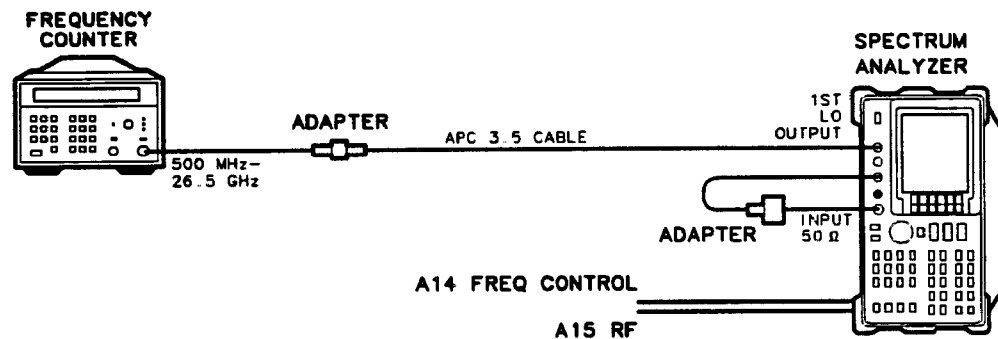

Figure 2-8. YTO Adjustment Setup
2. Disconnect the 50Ω termination from the 1ST LO OUTPUT. Connect the equipment as shown in Figure 2-8. Set the **LINE** switch ON.